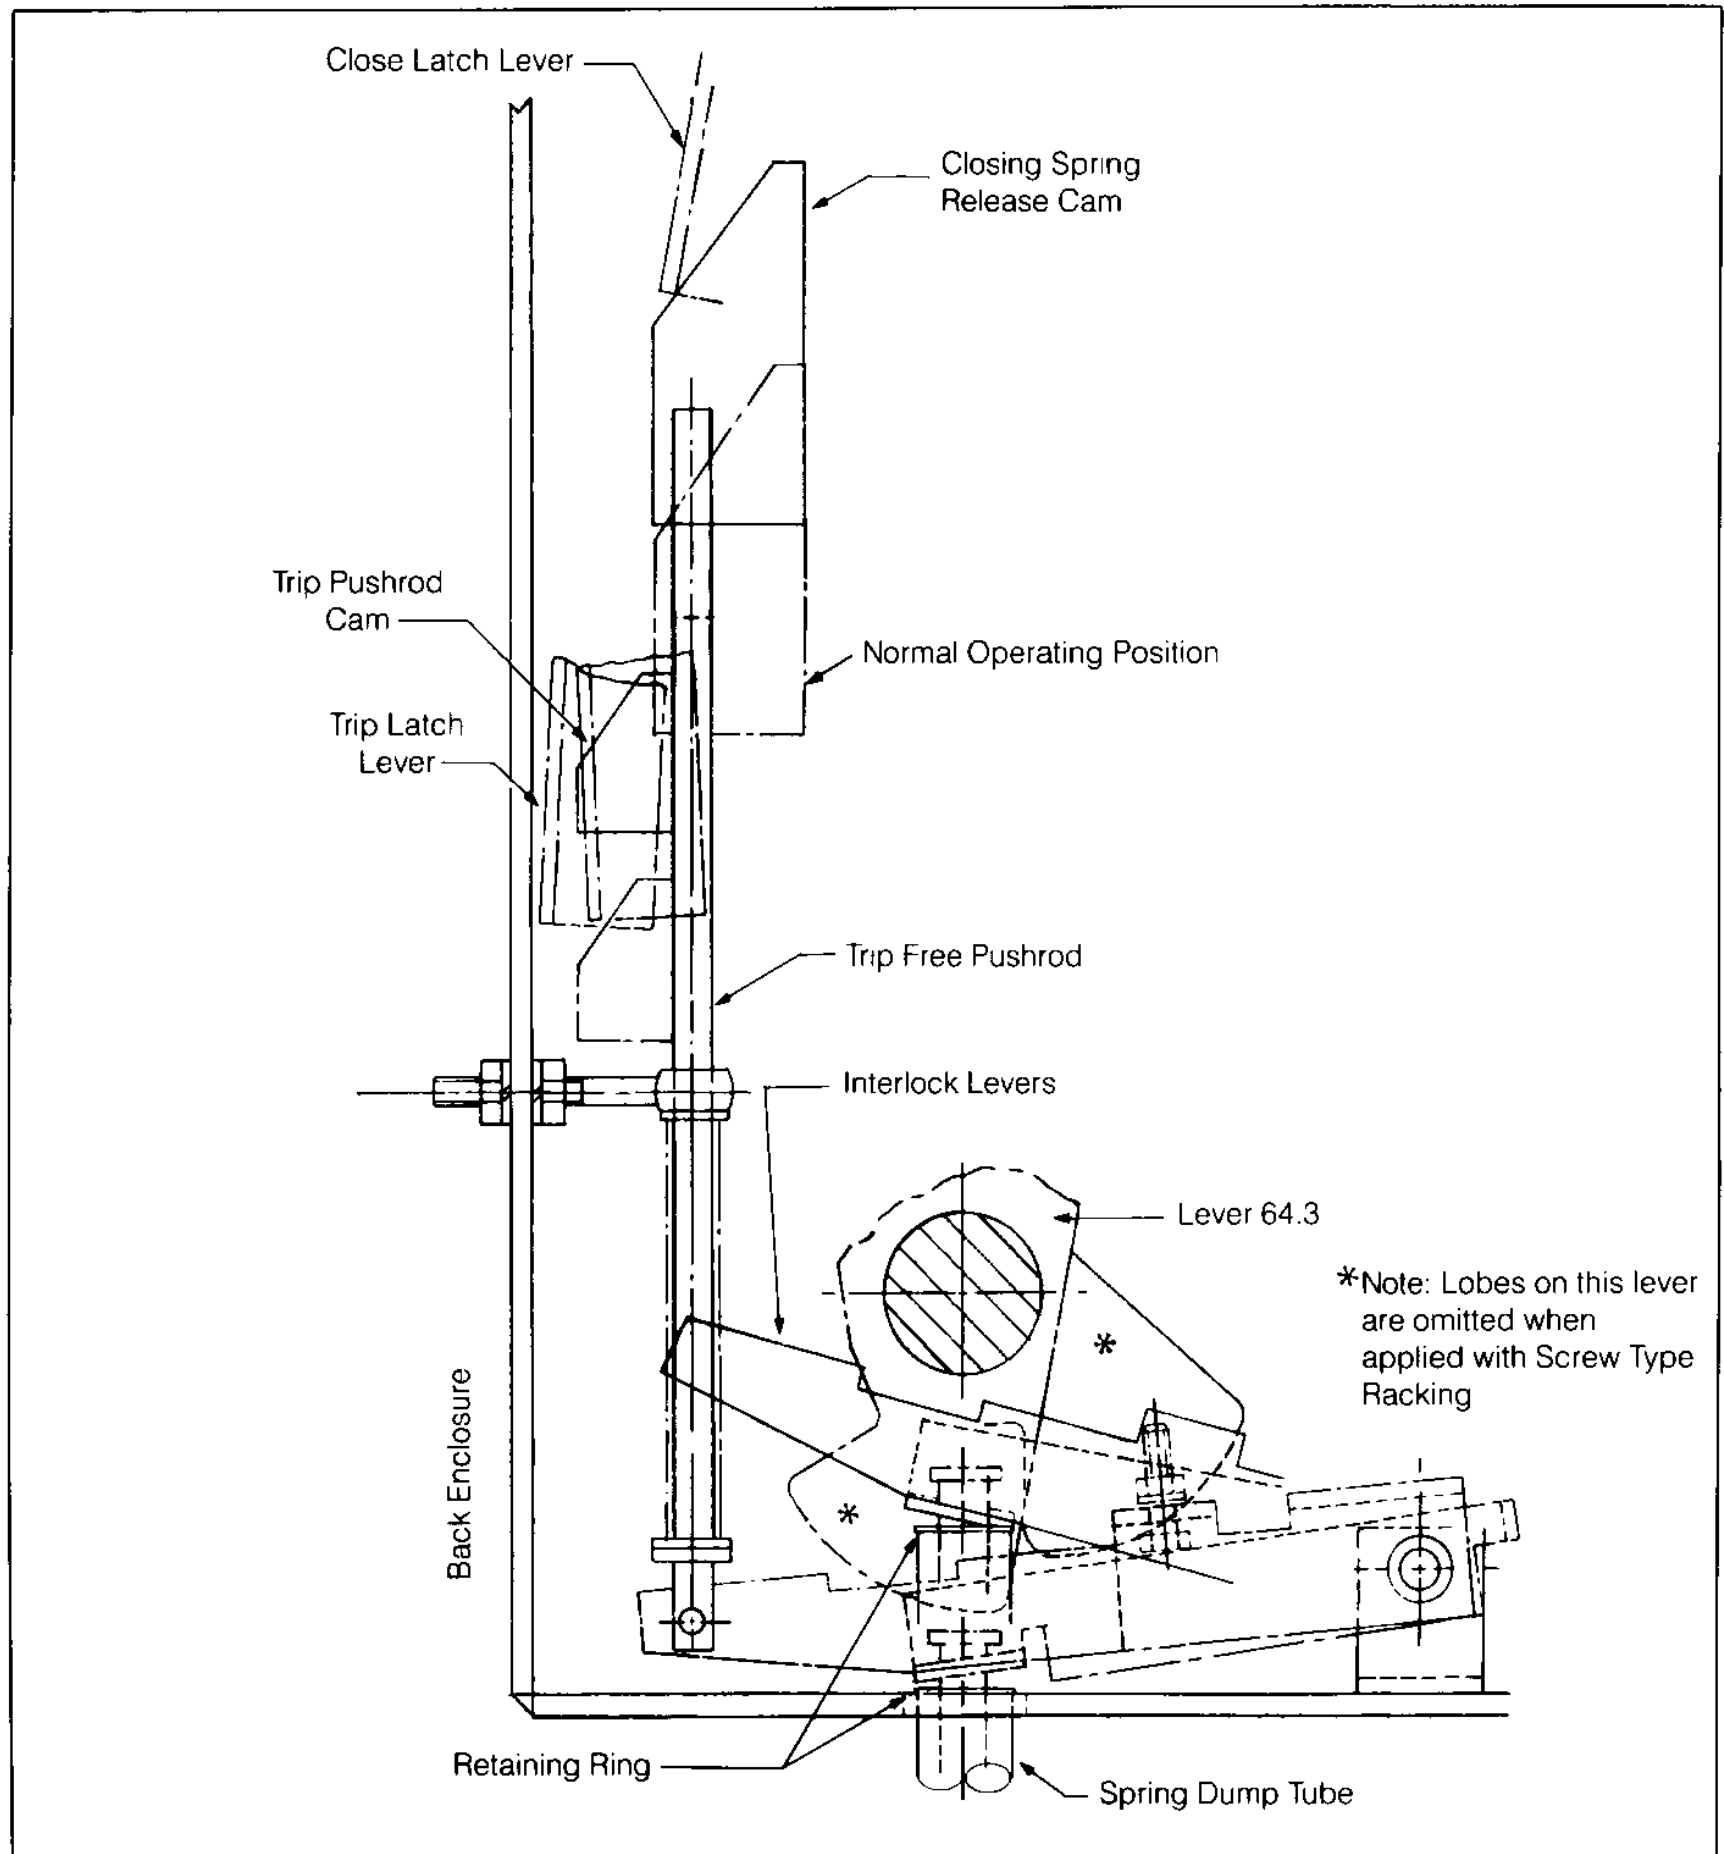

Figure 24b
- The breaker is *closed* whenever the primary circuit is completed through the vacuum interrupter contacts. This closed condition is caused by rotation of the breaker shaft, 63 to the position shown in figure 24b.
Reference to Figure 24b shows the spring dump tube telescoping the trip free push rod, and thus, the spring dump tube is able to move against the mechanisms interlock levers independently of the trip free function. As the dump roller approaches the actuating angle the trip free rod will be elevated, holding the mechanism trip free. When the roller strikes the actuating angle, it overtakes the trip free push rod and moves beyond the trip free position. This action is allowed because the "mushroom" tip at the top of the trip push rod is not attached to this push rod, but simply "floats" above it, captured by the mechanisms interlocking levers.